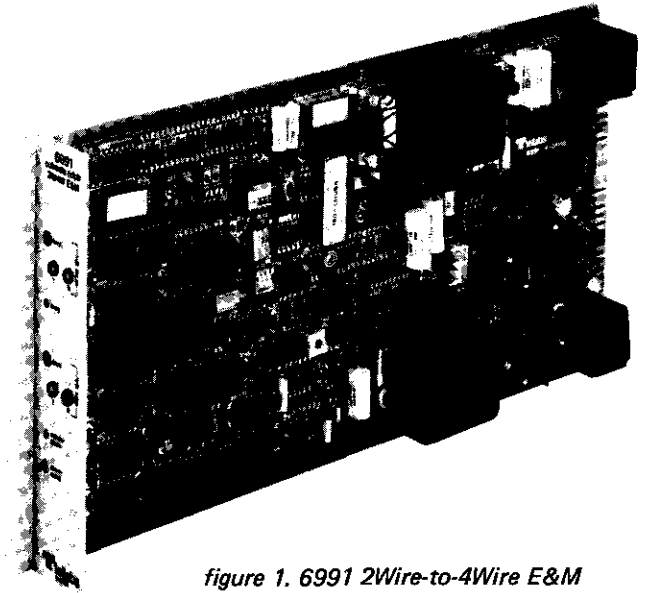

figure 1. 6991 2Wire-to-4Wire E&M OUTWATS Adapter module
1.01 The Tellabs 6991 2Wire-to-4Wire E&M OUTWATS Adapter (figure 1) is an auxiliary trunk control module that directly interfaces 2wire station equipment with a Class 3 or Class 4 toll switching center. The 6991 performs all necessary supervisory and signaling functions normally performed by a Class 5 end office. The module also provides usage-metering leads compatible with various types of metering systems. The 6991 therefore eliminates the need for OUTWATS calls to be routed through a Class 5 end office.